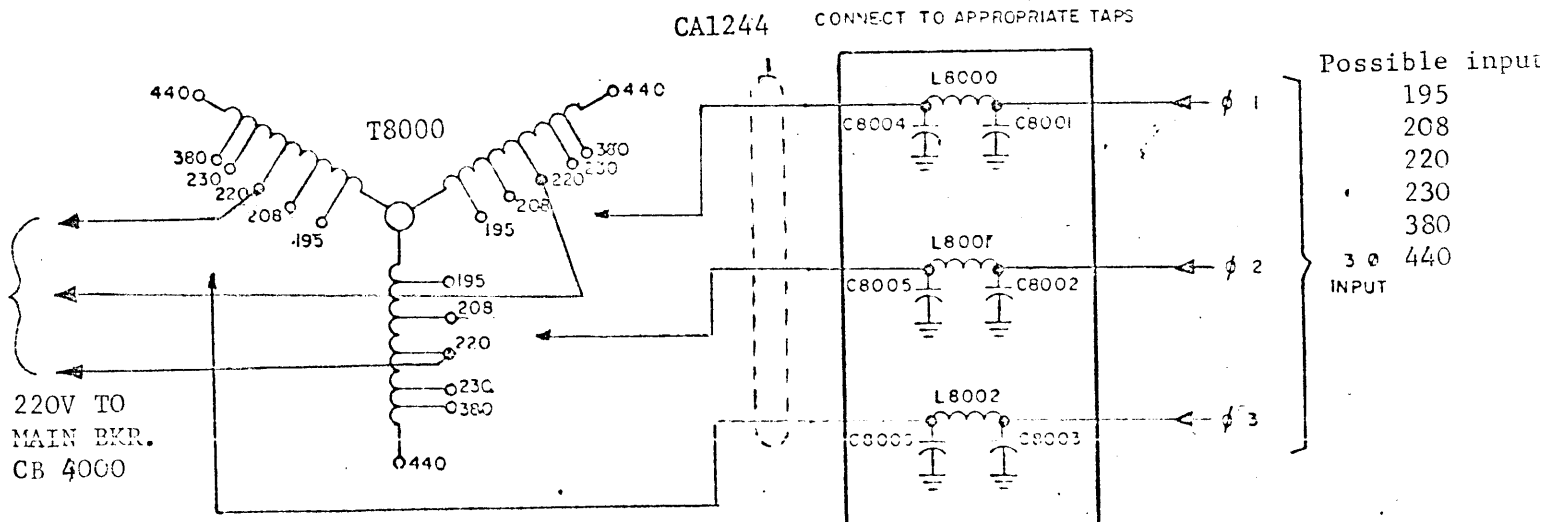

Figure 2-2. Input Power Connections,
- c. Intracomponent cabling is shipped pre-installed in the transmitter rack, refer to figure 2-2, 2-3, 2-4 (CK1558), 2-5 (CK1559) and 2-6 (CK1587) for cable connections; follow outlined installation procedure in PALA-2.5K instruction manual (paragraphs 2-3 and 2-4).